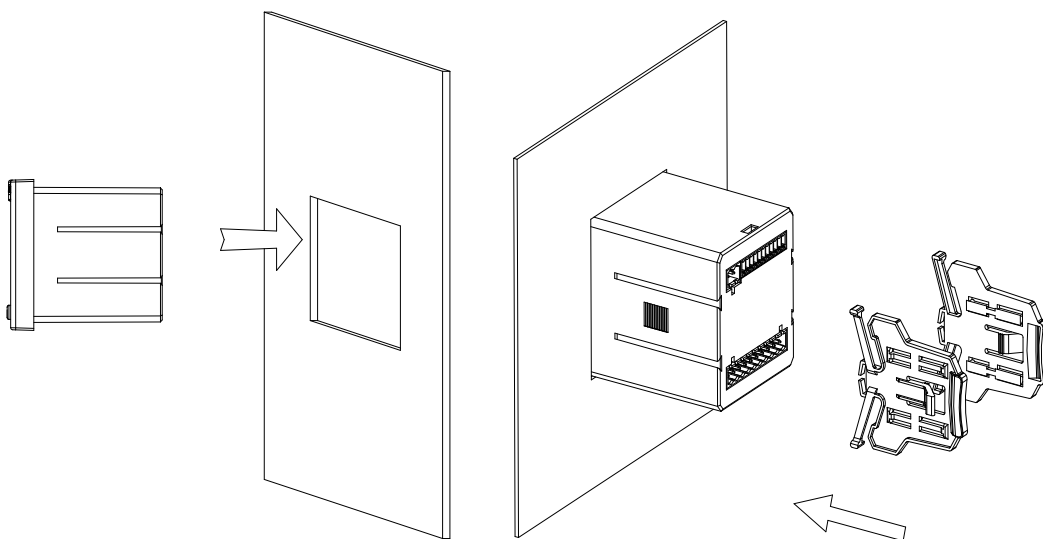

图 2
- 3) The meter is loaded into the mounting hole from the front, as shown in Figure 2;